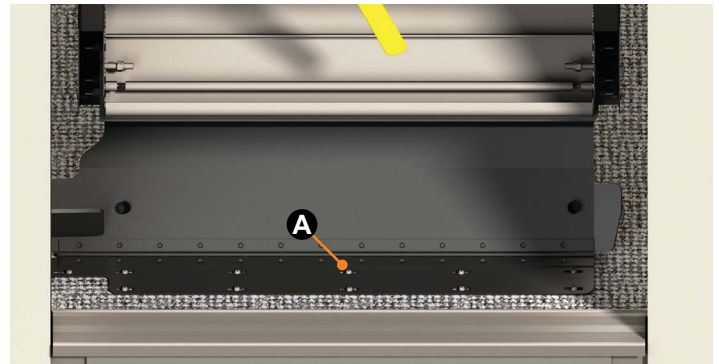
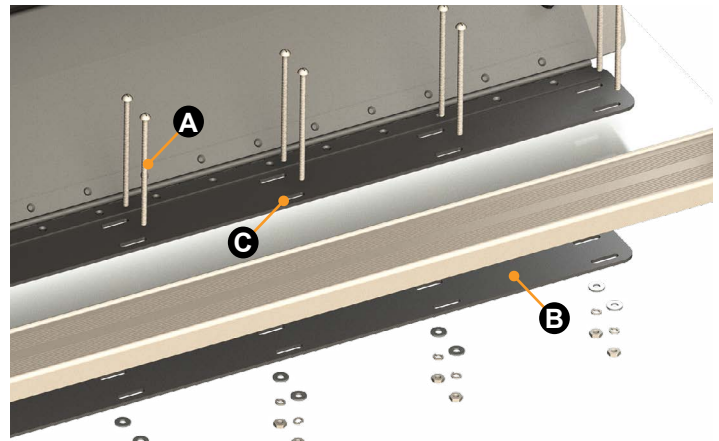

Fig.16
Fig.17
B. (cont.) Install two #10-24 bolts (Parts List item P), two #10 flat washers (item Q), two #10 lock washers (item R), two #10-24 hex nuts (item S) and backer plate (item D) via the two drilled holes (**Fig.12A**). Figure 17 shows the locations of the backer plate, flat washers, lock washers, and nuts, which should be installed to the exterior underside of the trailer.
1. Install fasteners into the nine remaining slots of the hinge slot per method A (**Fig.16**) or method B (**Fig.17**) as described and previously determined in step 3 of the "Installation" section.